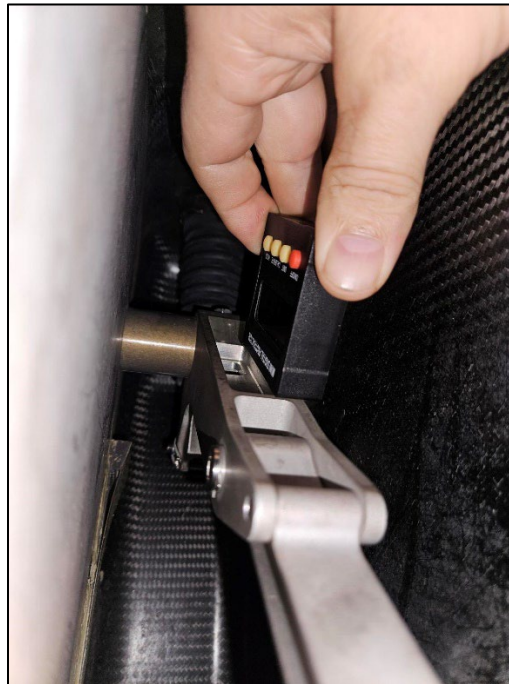

Figure 5. Bellcrank Measurement
6. With the weight off the nose landing gear, gently rotate the NLG bellcrank forward with moderate hand pressure. Record the angle with a digital protractor (see **Figure 5**).
7. With the weight off the nose landing gear, gently rotate the NLG bellcrank backward with moderate hand pressure. Record the angle with a digital protractor, taking care to take the measurement in the same location as before (see **Figure 5**).